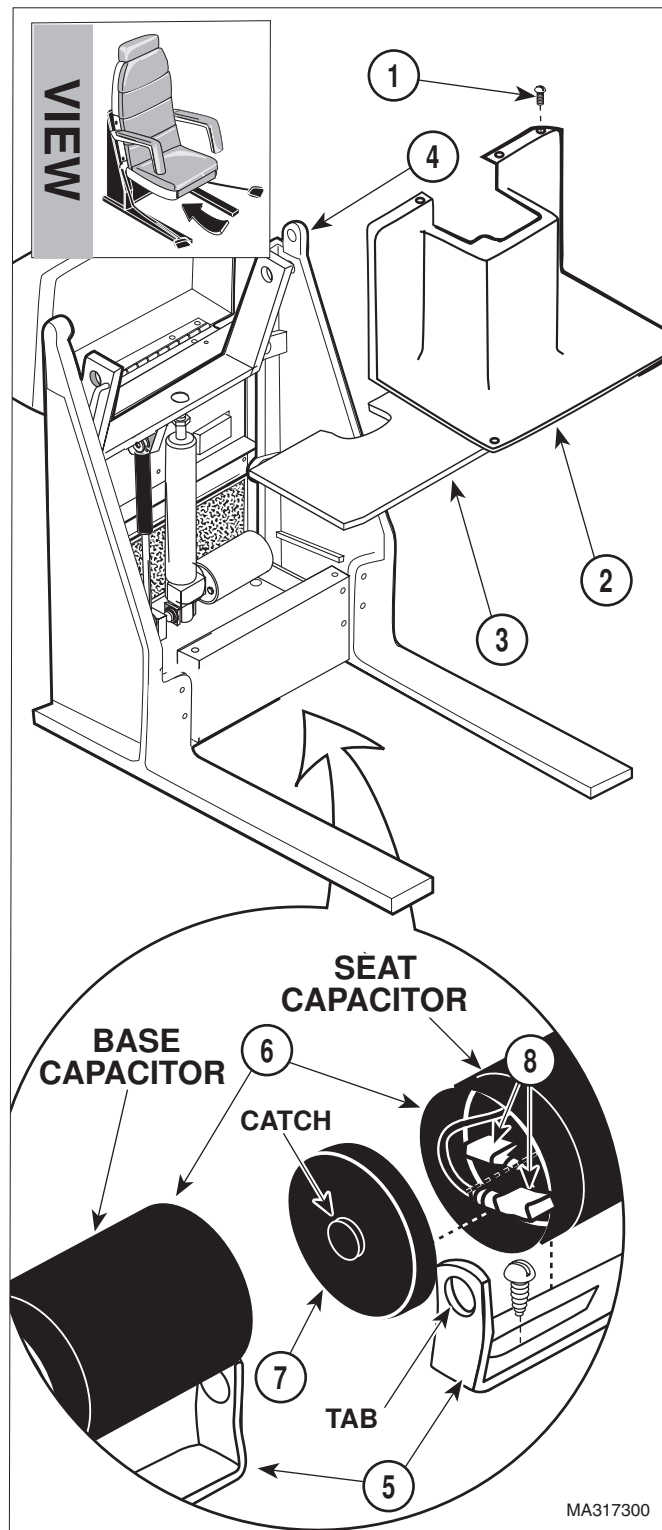

Figure 4-8. Typical Capacitor Removal / Installation
- (2) Unplug chair power cord from wall outlet.
- (3) Remove seven screws (1, Figure 4-8), outer shroud (2), and inner shroud (3) from base casting (4).
- (4) Using a screwdriver, pry tab of capacitor mounting bracket (5) outward and remove capacitor (6) from capacitor mounting bracket.
- (5) Remove capacitor cap (7) from capacitor (6).